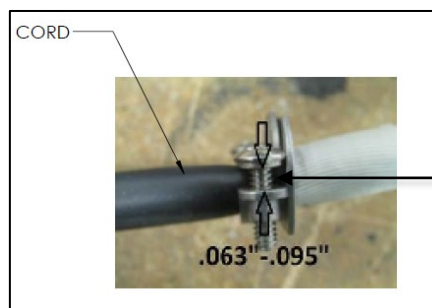

FIG. 26 – STRAIN RELIEF WITH CORD INSERTED
8. Insert CORD through the STRAIN RELIEF and tighten two screws on the STRAIN RELIEF above MOUNTING BRACKET where marked. If screws are not properly tightened CORD could slip through the STRAIN RELIEF. Tighten screws until there is a gap of .063" - .095" between the STRAIN RELIEF body and compression plate as shown in FIG. 26 below.